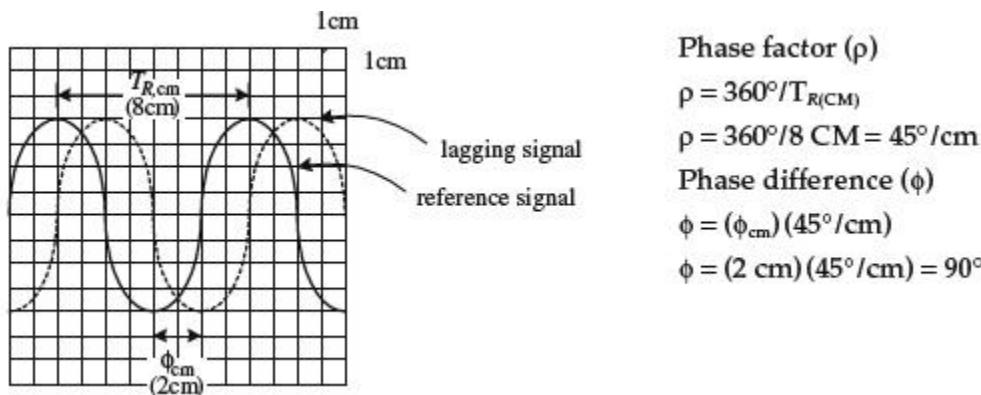

FIGURE 7.43
6. Determine the phase factor of the reference signal. If one period (360°) of a signal is 8 cm, then 1 cm equals one-eighth of 360° , or 45° . The 45° value represents the phase factor (see Fig. 7.43).
7. Measure the horizontal distance between corresponding points (for example, corresponding peaks or troughs) of the two waveforms. Multiply this measured distance by the phase factor to get the phase difference (see Fig. 7.43). For example, if the measured difference between the two signals is 2 cm, then the phase difference is $2 \times 45^\circ$, or 90° .